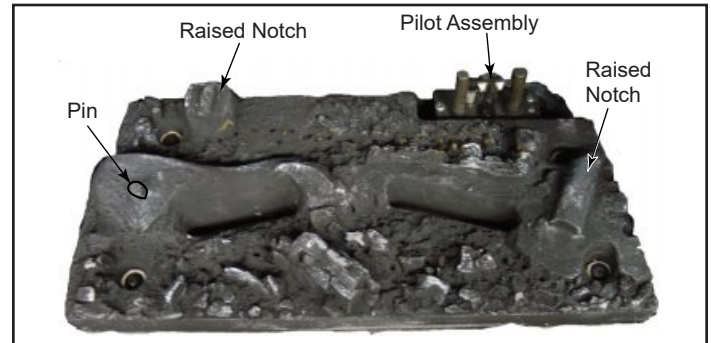
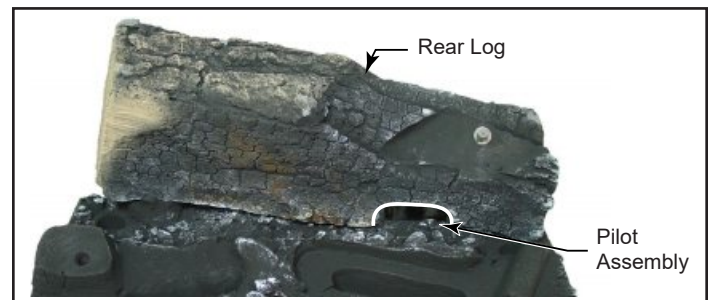

Figure 3.26 - Rear Log
Figure 3.27 - Ribs for Logs
2. Install the rear log by mating the notch on the bottom of the log with the raised notch on the back left side of the ember bed, Figure 3.26 Ensure the cutout in the right side of the log is sitting around the pilot assembly and pilot is not obstructed, Figure 3.27.